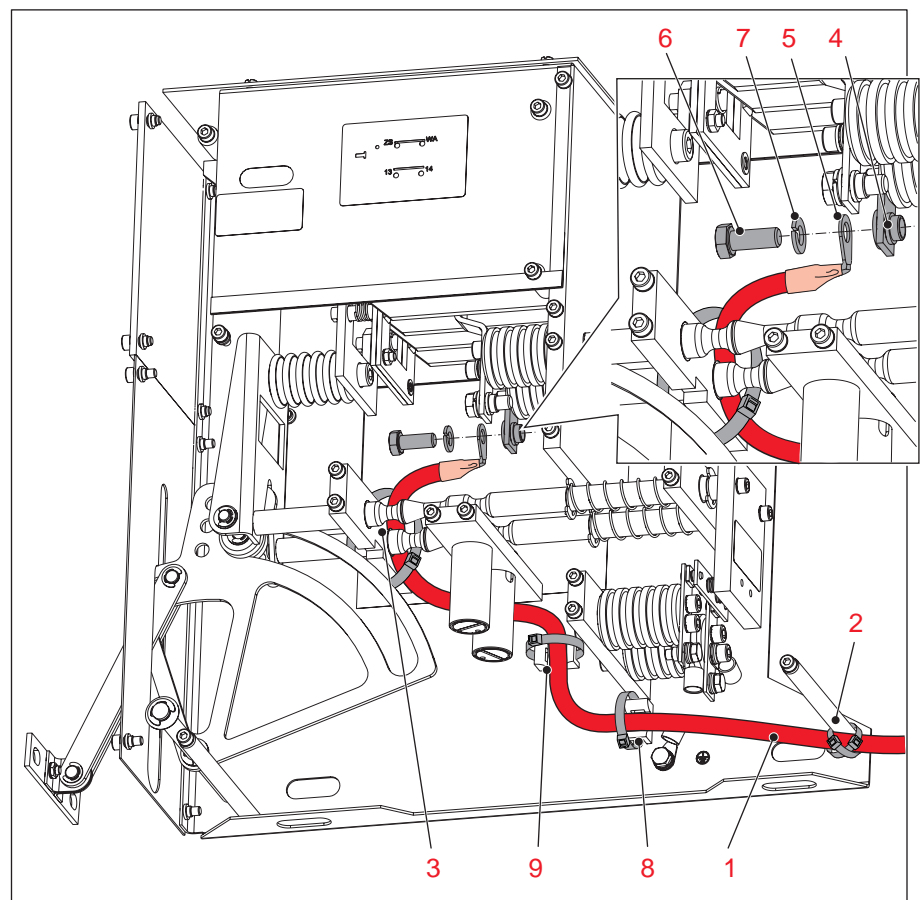

Figure 4: Laying and connecting the high voltage cables
2. Thread the cable ZS (1) on the right lateral wall (seen from behind) from the backside underneath the cross bolt (2) into the device, see **Figure 4**.
3. After that, lay the cable ZS (1) across the front bearing bridge (3) to the ZS contact (4), see **Figure 4**.
4. Connect the cable lug (5) of the ZS cable with the hexagon head bolt M8 (6) and detent-edged ring (7) to the ZS contact, see **Figure 4**.
5. Secure the cable ZS with cable ties on the following positions as indicated in **Figure 4**:
- on the bearing bridge (3),
- and on the back cross bolt (2).